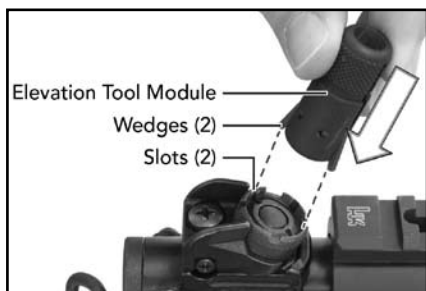

Fig. 13 – Insert elevation tool module into rear sight
1. Insert the elevation tool module into rear sight while inserting the wedges of the tool into the slots of the rear sight (Fig. 13).
1. Insert the elevation adjustment module tool into rear sight while inserting the wedges of the tool into the slots of the rear sight (Fig. 13).